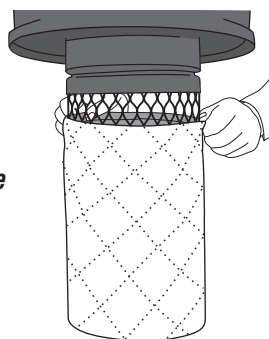

figure 9
3. Install the new bag, ensuring the tabs on the bag adaptor are aligned with the slots in the bag collar (**figure 9**).